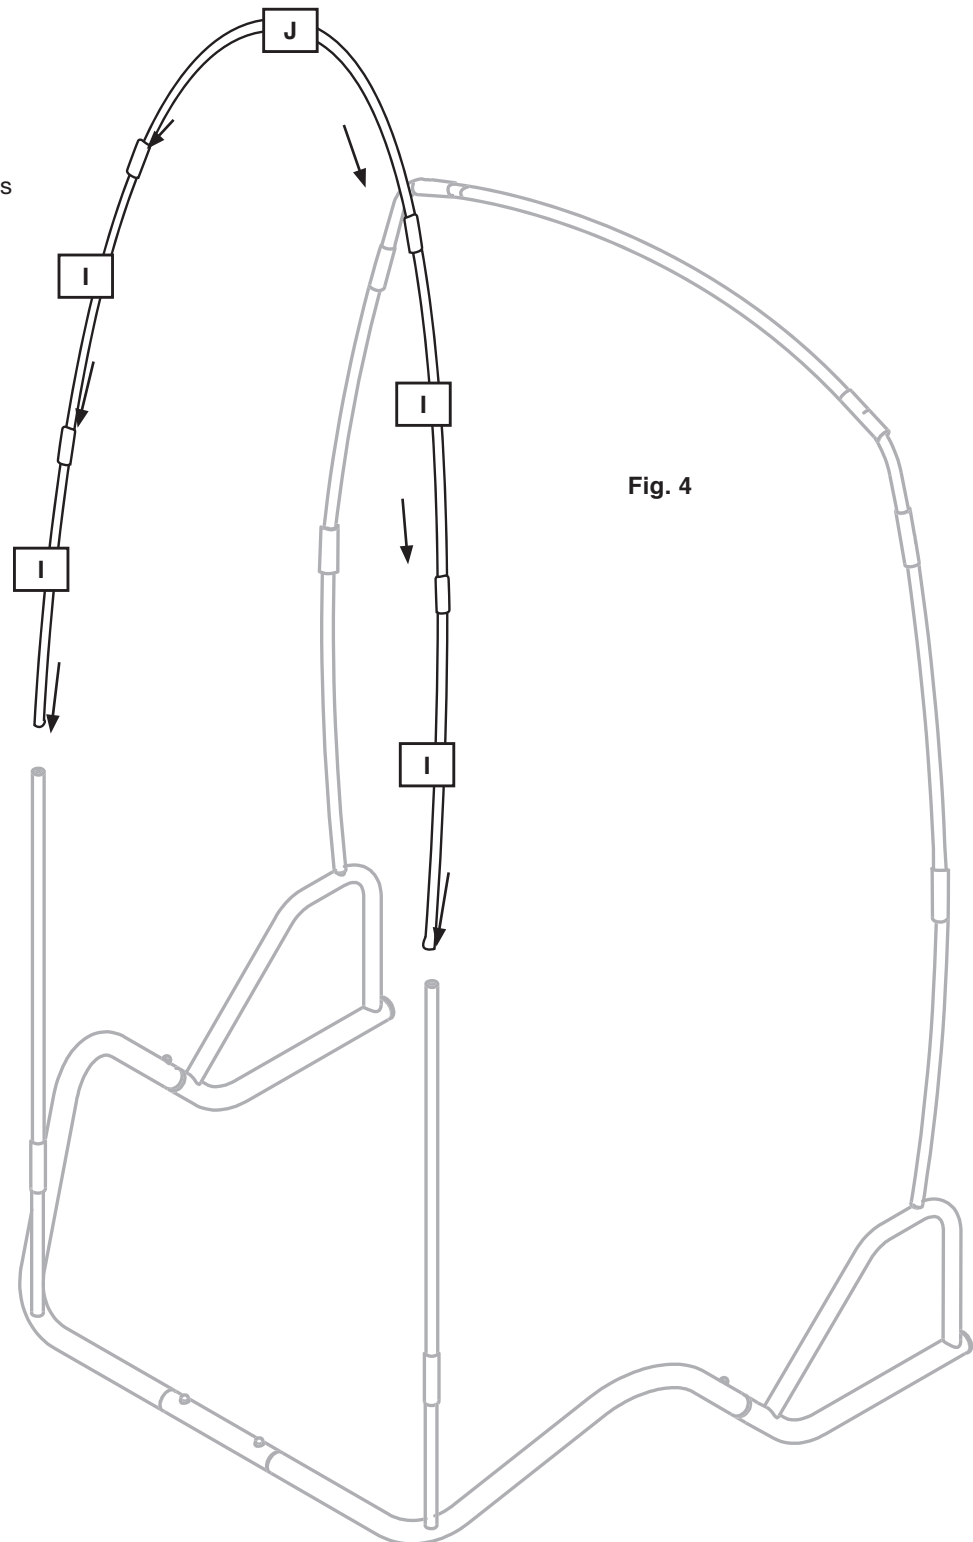

Fig. 4
INSTALL THE FRONT HOOP POLES (FIG. 4)
6. Insert the front hoop side poles [I] first into each assemble front pole on the frame. Insert another pair of front hoop side poles into the one installed on the front poles. Finish by carefully inserting the front hoop top pole [J] into both the top most front hoop side poles, forming a curve. The curved poles will be standing quite high up in the air. This is normal. (Fig. 4)